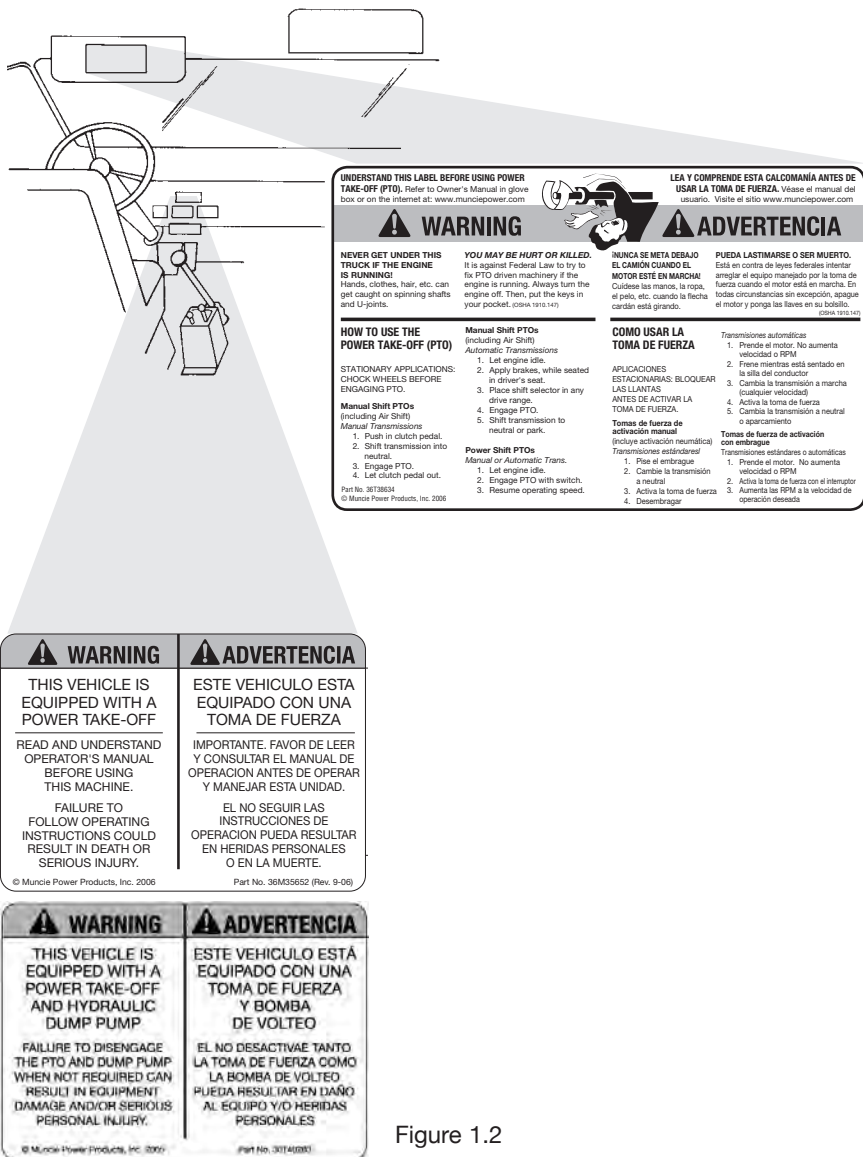

Figure 1.2
2. The 2" x 3" PTO Equipped Caution Label is to be placed within the cab of the vehicle and in easy view of the vehicle operator. It should be located near the PTO control, when the control is installed in the vehicle dash (See Figure 1.2). This label directs the operator to read the PTO operating instructions on the "Visor Label". The Visor Label 4" x 6 1/2" is to be placed on the visor on the operator's side of the vehicle (See Figure 1.2). Do not mount this label on the same side of the visor as the air bag warning label if so equipped. Vehicles with hydraulic dump pumps are supplied with a Warning label to be mounted in clear view of the operator while seated in the driver's seat.